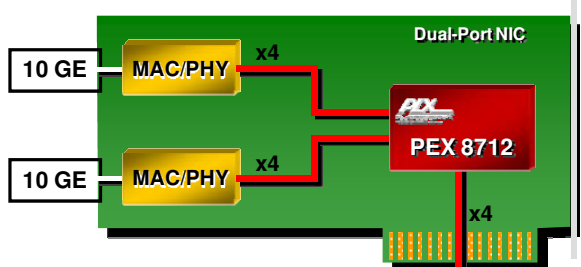

Figure 7. 10GE NIC Fan-Out
The PEX 8712 can also be utilized in communications applications such as Network Interface Cards (NICs). NICs can utilize the PEX 8712 for its fan-out capabilities. In Figure 7, the PEX 8712 is used on a Dual-port 10-Gigabit Ethernet (GE) NIC card links to connect the host to the 10GE ports. The peer-to-peer communication feature of the PEX 8712 allows the endpoints to communicate with each other without any intervention or management by the host.